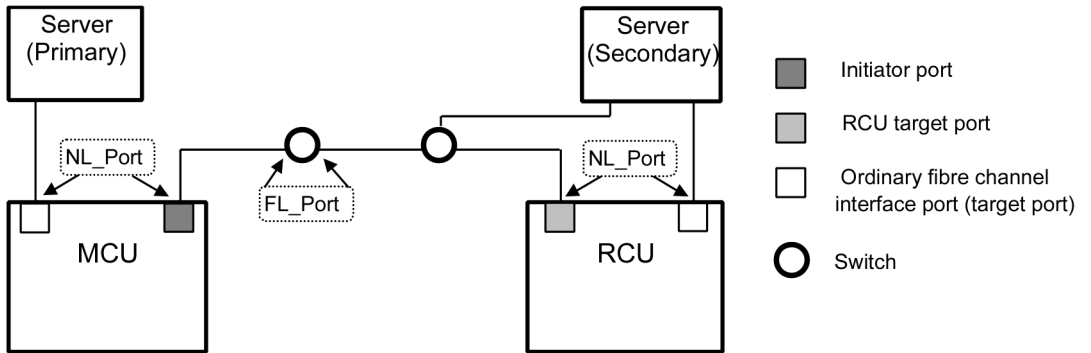

Figure 17. Fibre Channel switch connection (NL_Port or N_Port) up to 11km
- **Switch connection** (see Figure 17): Up to three fiber optic cables are connected together using switches to connect the arrays. Up to two switches can be used. CA paths through a shared switch must be zoned.